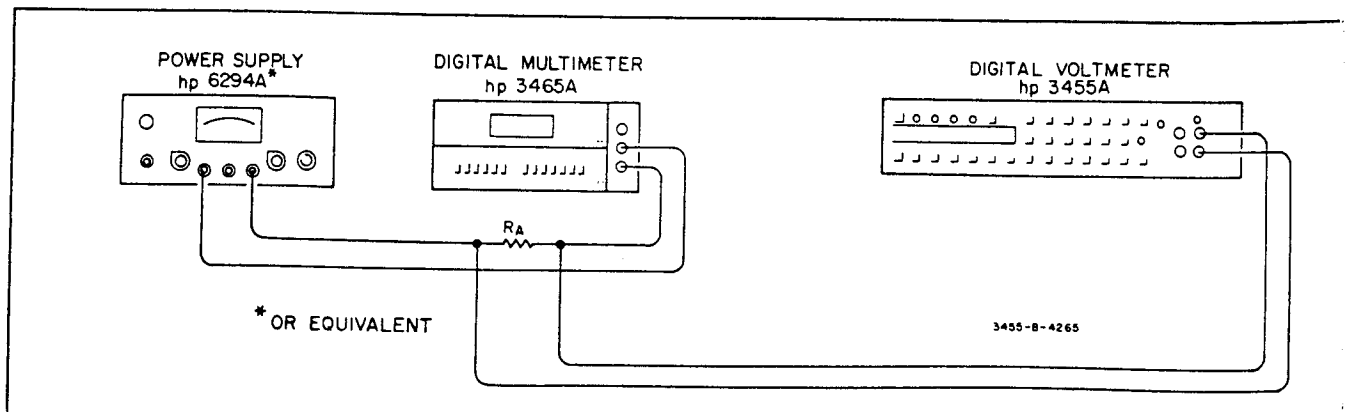

Figure 5-1. DC Ammeter Accuracy Test.
a. Connect the Multimeter and test equipment as shown in Figure 5-1.